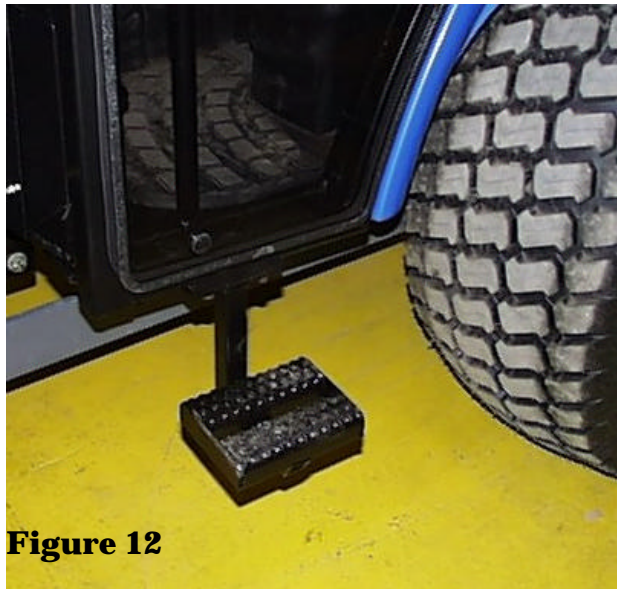

Figure 12
18. Take the step and the two 3/8" x 3/4" flange bolts provided and bolt step onto step mount plate which is located beneath the lower crossmember at the bottom of the door entry. See Figure 12.